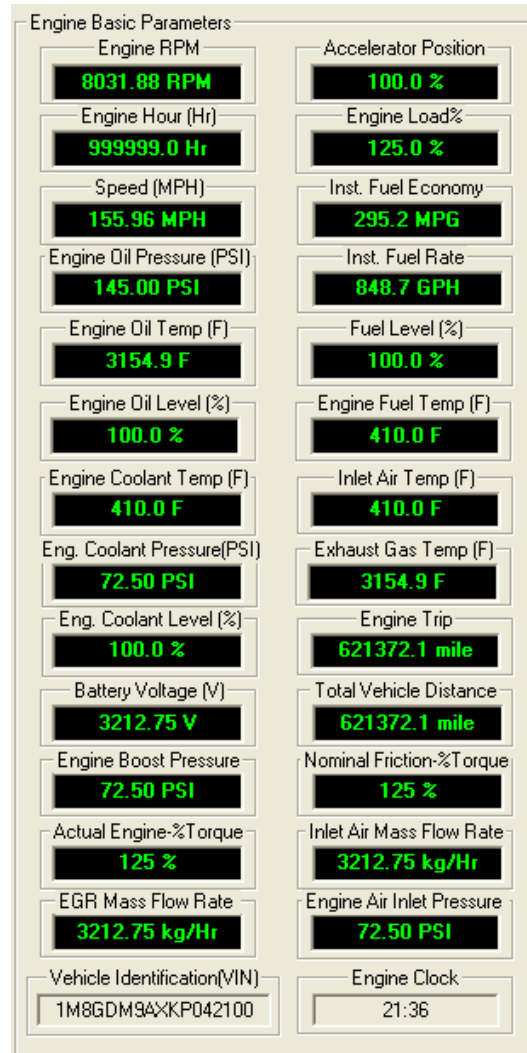

Figure 4-14 Display panel – Engine basic parameters
Display the following **28** engine basic parameters: Engine RPM, Engine hour (Hr), Vehicle speed (MPH), Engine oil pressure (PSI), Engine Oil Temperature (F), Engine Oil Level (%), Engine coolant temperature (F), Engine Coolant Pressure (PSI), Engine Coolant Level (%), Battery voltage (V), Engine boost pressure (PSI), Actual Engine-% Torque, EGR Mass Flow Rate, Vehicle Identification, Accelerator Position, Engine Load %, Instant fuel economy (MPG), Instant fuel rate (GPH), Fuel Level %, Engine Fuel Temp (F), Inlet Air Temp (F), Exhaust Gas Temp (F), Engine Trip, Total Vehicle Distance (mile), Nominal Friction-% Torque, Inlet Air Mass Flow Rate, Engine Air Inlet Pressure, and Engine Clock * (HH:MM) (Figure 4-14).